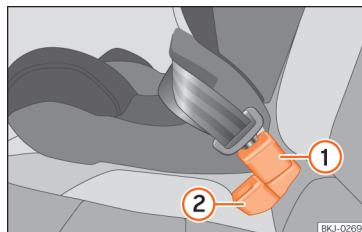

Fig. 28 Position of the belt buckle on the rear seat
- Place the middle seat's belt buckle »» Fig. 28 ① behind the side seat's belt buckle »» Fig. 28 ②.
- Plug the middle seat's seat belt into the middle seat's belt buckle »» Fig. 28 ① and make sure it clicks in place.
- For seat belts to be correctly fitted, the buckles must not be twisted »» Fig. 28.